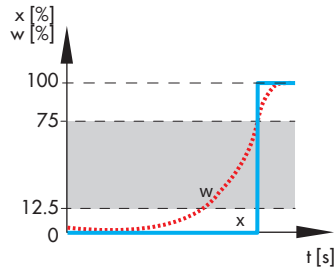
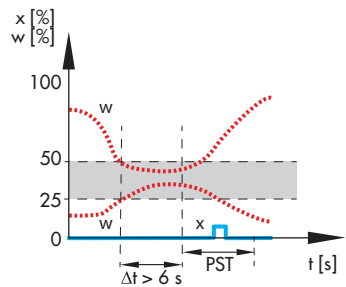

Fig. 3: Discrete set point analysis
Fig. 4: Step response test (PST)
The discrete analysis of the set point is performed in automatic mode (see Fig. 3). Depending on the set point change, the valve performs a step response test (PST). See Fig. 4.
- » Set point: the set point has changed (see Fig. 3).